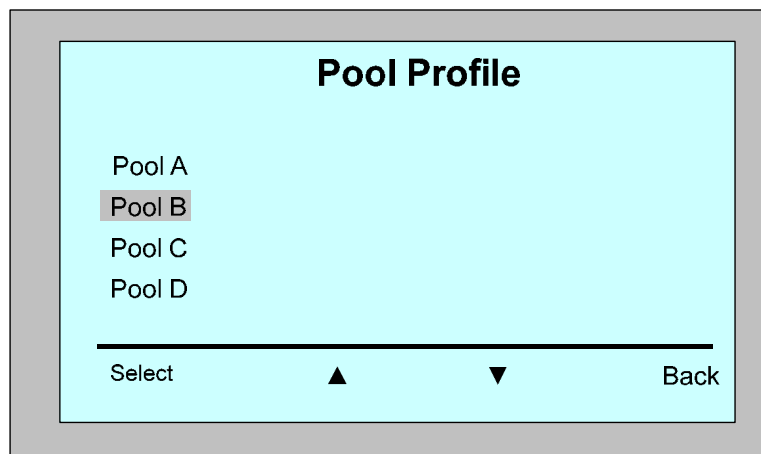

Figure 10: Pool Profile screen
- From the *Wave* screen, press **Pool A**. The *Pool Profile* screen opens (Figure 10).